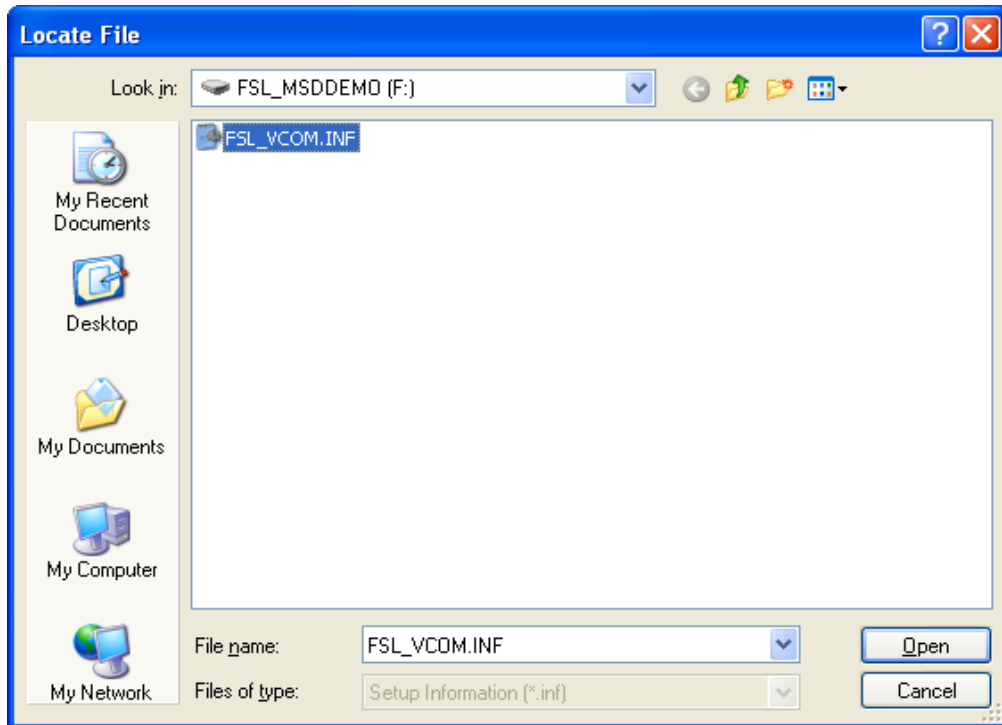

Figure K-16. Location to the driver
Step 5. Navigate to FSL_MSDDemo disk, CDC driver file is FSL_VCOM.INF, choose it and click Open button (Figure K-16). After that, click Next button when the next window appears to install driver.